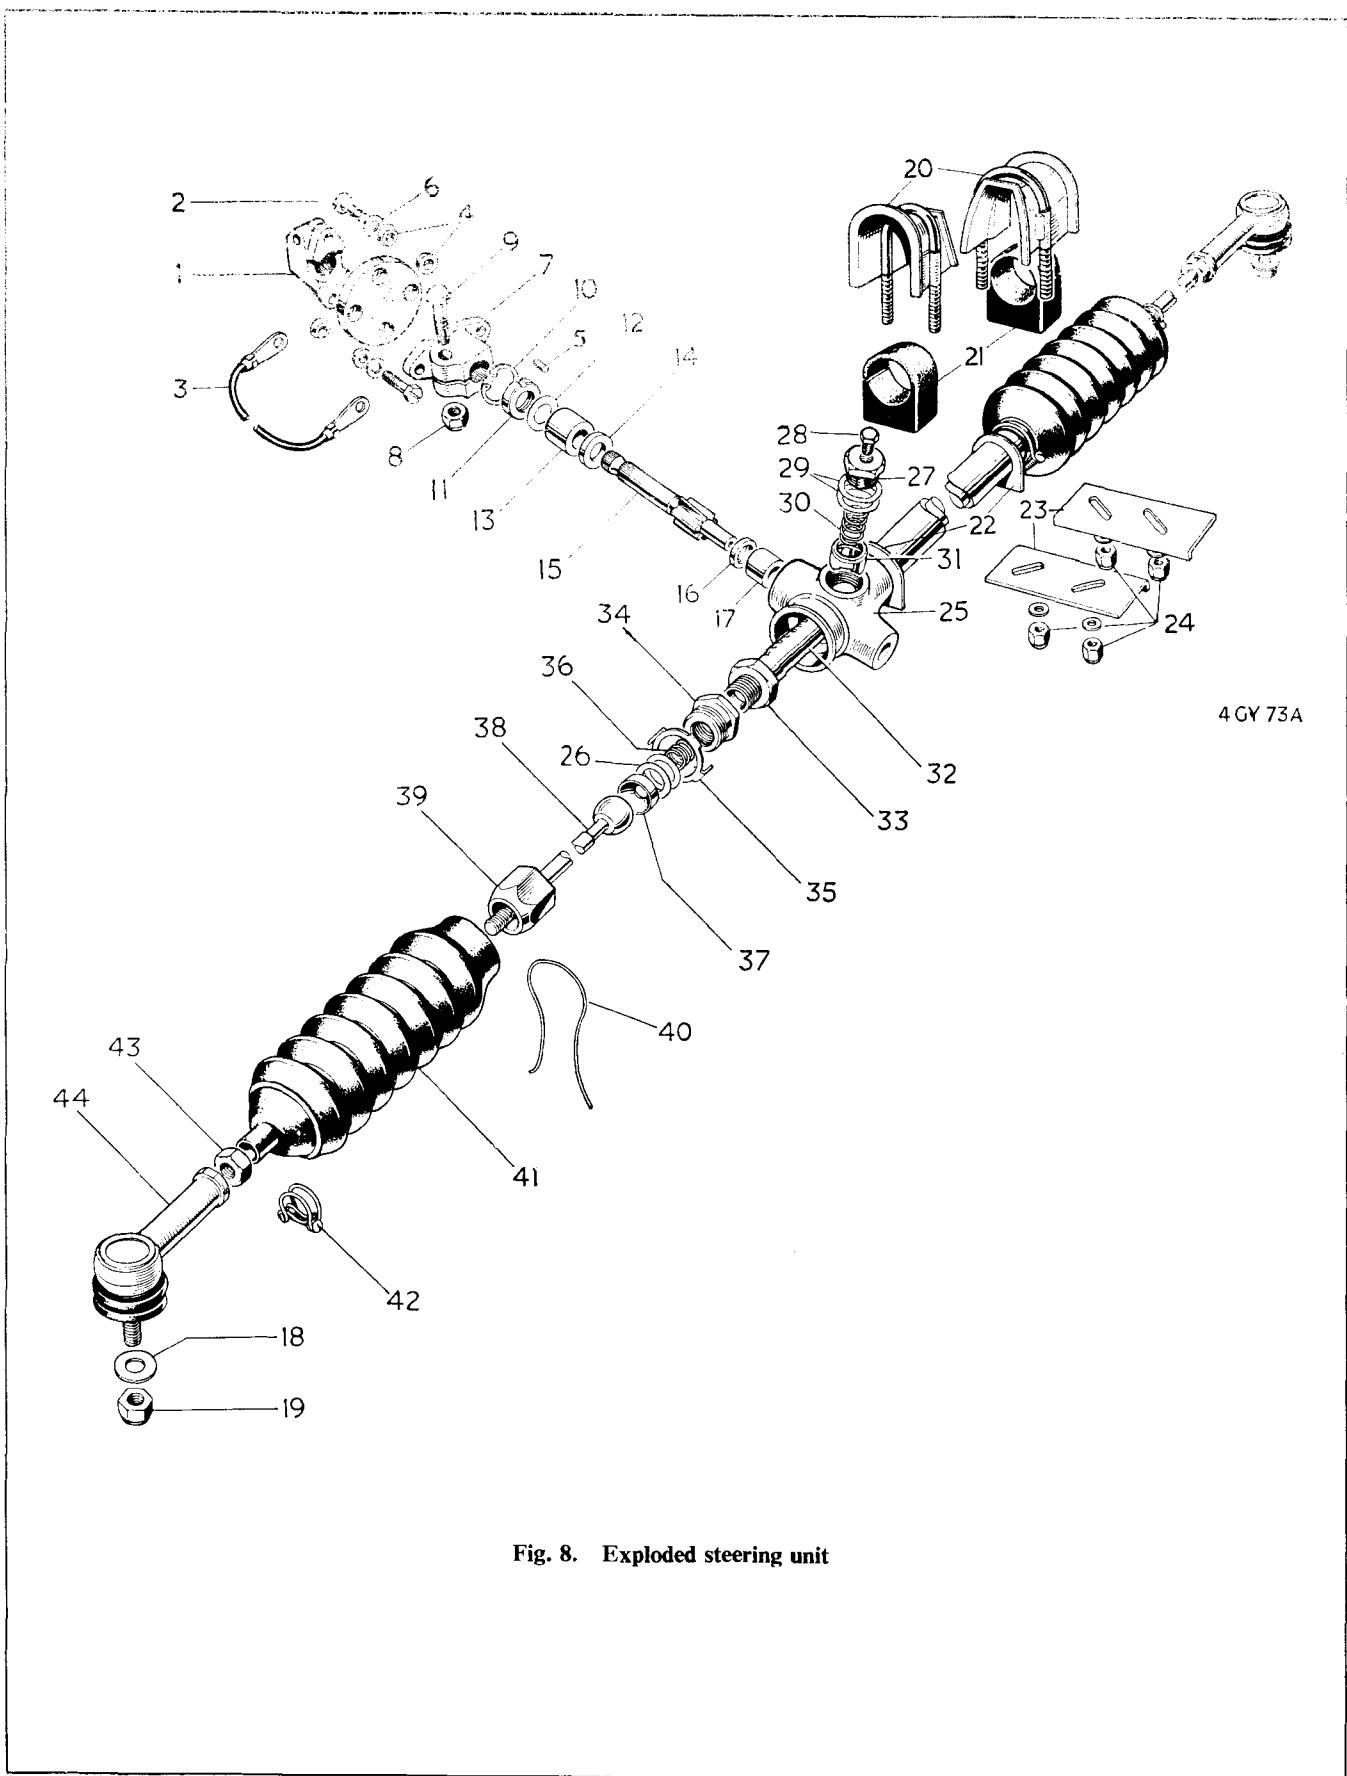

Fig. 8. Exploded steering unit
4. Remove the nuts (24) and plates (23) (Fig. 8).
6. Raise the L.H. side of the engine approximately $1\frac{1}{2}$ " (114 mm.), taking care not to damage the radiator top hose. Remove the "U" bolts (20) and rubber bushes (21) (Fig. 8).
7. Hold the "U" bolts in the position achieved in (6), while an assistant slides the plates (23) inwards to abut their flanged faces against the chassis frame flange. Tighten the nuts.
8. Fit the nyloc nut (8) and bolt (9) to the steering coupling (7) (Fig. 8).
10. Refit the tie-rod ends (44) to the steering arms and secure with plain washers (18) and nyloc nuts (19) (Fig. 8).
Steering Unit (Figs. 8, 14, 15 and 16)
assembly (Fig. 8)